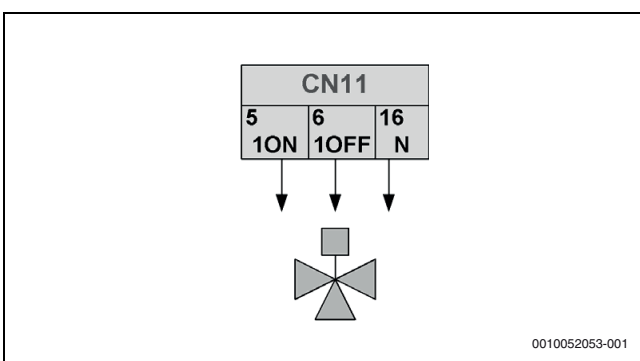

Fig. 77 3-way valve SV1, type 2 control signal
- Read the 3-way valve use and installation manual carefully and install the valve as shown in the figure 77.